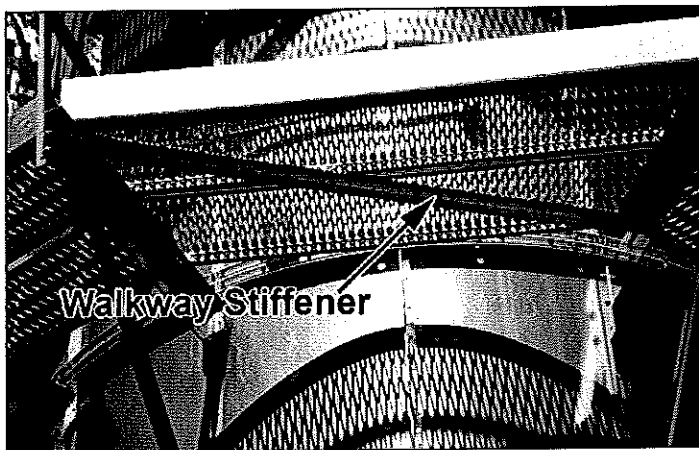

Figure 13
- Once the (9) walkway support legs have been bolted in place, there are (2) walkway stiffeners that must be installed between the second and third plank supports and between the eighth and ninth supports. See Figure 13. The top side of the stiffeners have a bolt hole at both tapered ends, which must face in toward the screen section.